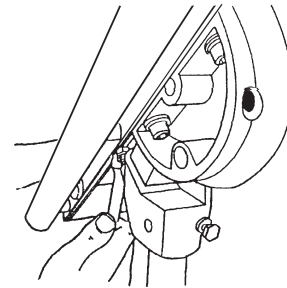

Figure 45
- Also, the back side of the Worktable (shown in Figure 45). The stops should just contact the underside of the Table.